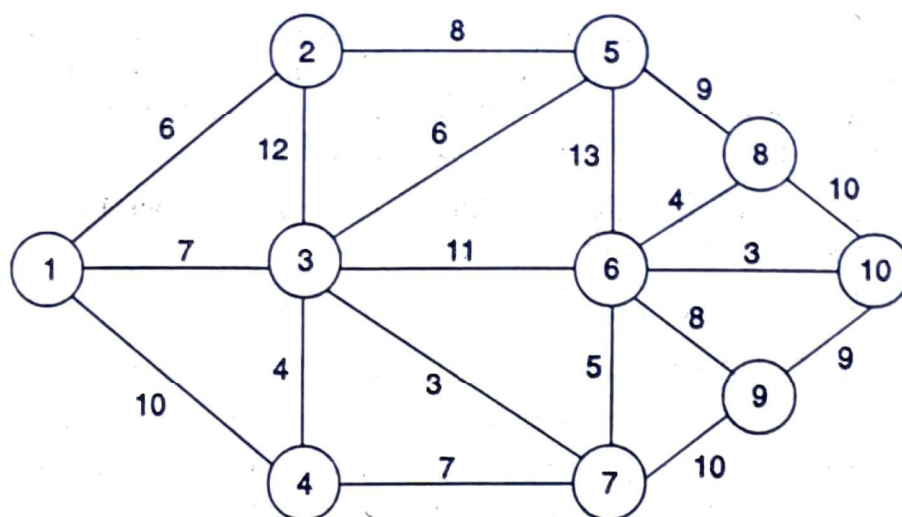

Fig. 5.1 Distance network.
A *network* consists of a set of nodes (vertices) and a set of arcs (edges). Each node represents a location (city) and each arc represents the connection (road link) between two different locations (cities). The number on each arc represents the distance between the two locations (cities) (refer to Fig. 5.1).
Example 5.1 Consider the road network as in Fig. 5.1, where distances between different pairs of adjacent cities are summarized. Find the shortest path from City 1 to City 10.
- Step 1:** The distance network which is shown in Fig. 5.1 is represented in matrix form as shown in Table 5.1.